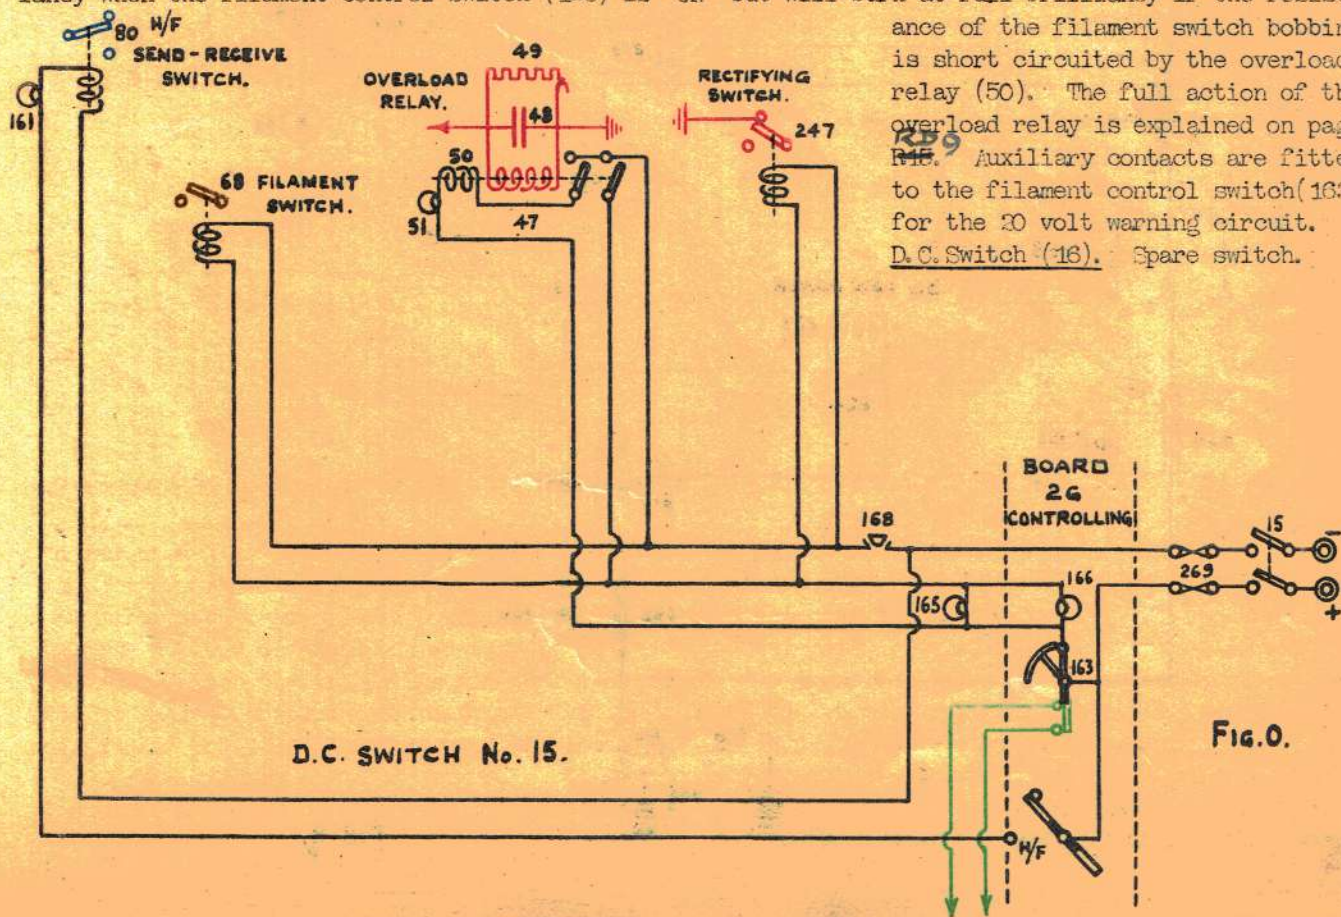

FIG. 0.
D.C. Switch (15). Control panel valve set. See figure 0.
D.C. Switch (15) and fuses (269) supply the bobbins of the filament switch (68) rectifying switch (247) overload relay hold on coil (50) and the H/F send-receive switch (80).